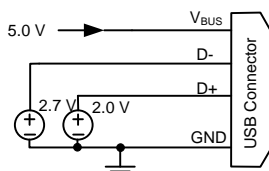
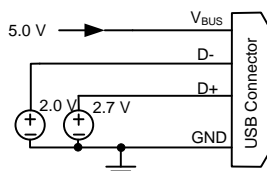
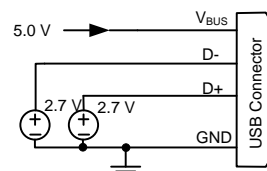

Figure 9. Divider 1 DCP
Figure 10. Divider 2 DCP
Figure 11. Divider 3 DCP
There are three charging schemes for divider DCP. They are named after Divider 1, Divider 2, and Divider 3 DCPs that are shown in Figure 9, Figure 10, and Figure 11. The Divider 1 charging scheme is used for 5-W adapters, and applies 2 V to the D+ line and 2.7 V to the D– data line. The Divider 2 charging scheme is used for 10-W adapters, and applies 2.7 V on the D+ line and 2 V is applied on the D– line. The Divider 3 charging scheme is used for 12-W adapters, and applies 2.7V on D+ and D- lines.
- Added Figure 11 10